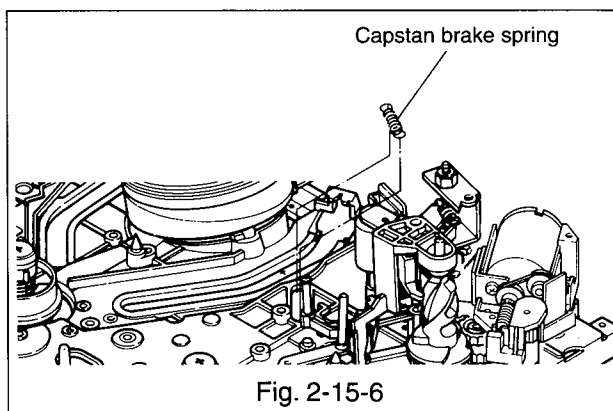

Fig. 2-15-6
- O. Fasten the capstan brake spring to the capstan brake and the loading gear arm from the top side of the deck. (Refer to Fig. 2-15-6.)
- B. Detach the capstan brake spring from the capstan brake and the loading gear arm.(Refer to Fig. 2-15-6.)